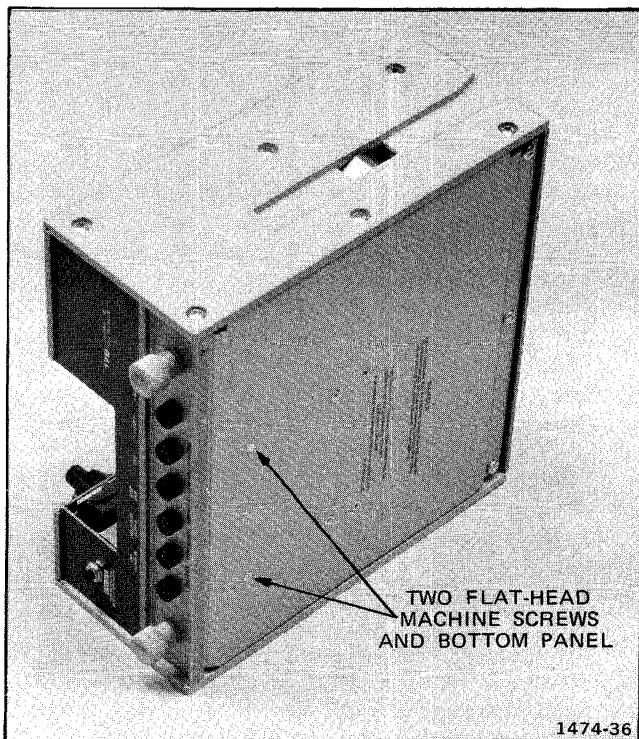

Fig. 4-10. Location of the screws securing the storage compartment shield.
1. Remove the two flat-head machine screws (Fig. 4-10) from the bottom panel.